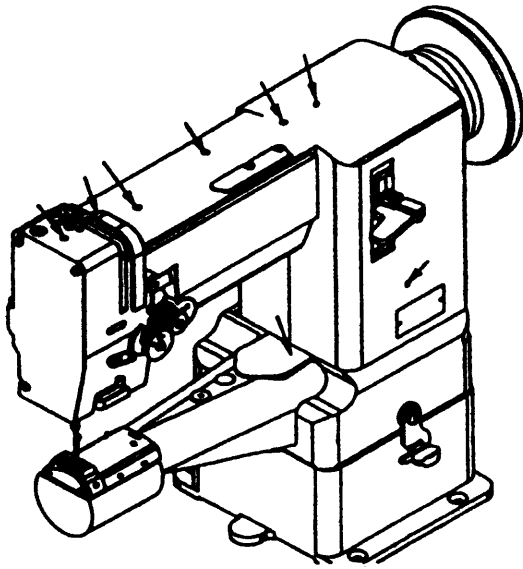
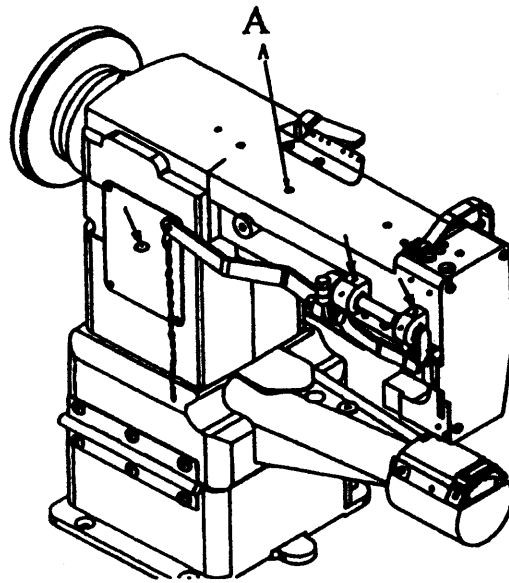
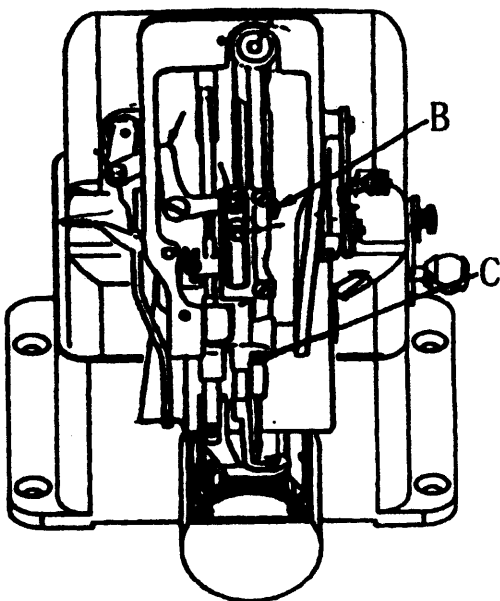
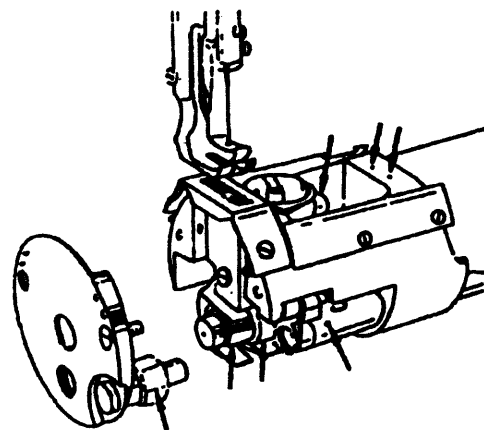

Fig.1
Fig.2
Fig.3
Fig.4
(3) Lubrication (fig.1、fig.2、fig.3、fig.4)
11. ADJUSTING THE PRESSURE OF PRESSER FOOT: (Fig.2)
Pressure of the presser foot can be adjusted by turning the pressure regulating thumb screw (fig. 2 A) .
When the needle bar is at its highest position, normally the measurement between the surface of the needle plate and the upper end of the needle eye is 22.3mm. You can adjust this at its lowest position. In this case, normally the measurement between the surface of the needle plate and the upper end of the needle eye is 11mm. To adjust this, loosen screw (B.fig.3), and raise or lower the needle bar as may be required. Then tighten the screw.